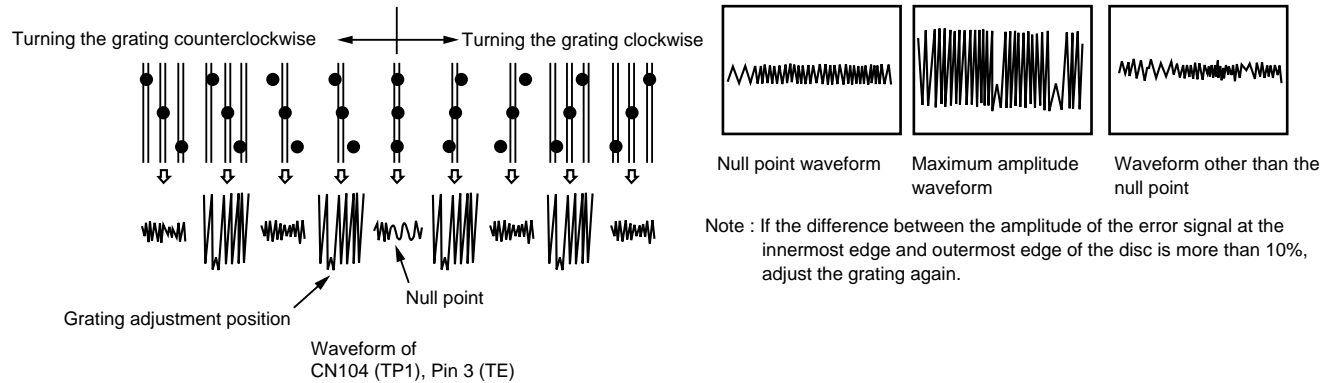

Fig. 13
Reference : Fig. 13 shows the relation between the angle of the tracking beam with the track and the waveform.
When you insert the small screwdriver into the slit for the grating adjustment and change the grating angle, the amplitude of the tracking error signal at CN104 (TP1), Pin 3 (TE) changes. Within the range for the grating, there are five or six locations where the amplitude of the wave reaches a minimum. Of these five or six locations, there is only one at which the envelope of the waveform is smooth. This location is where the three laser beams divided by the grating are all right above the same track. (See Fig. 13.)